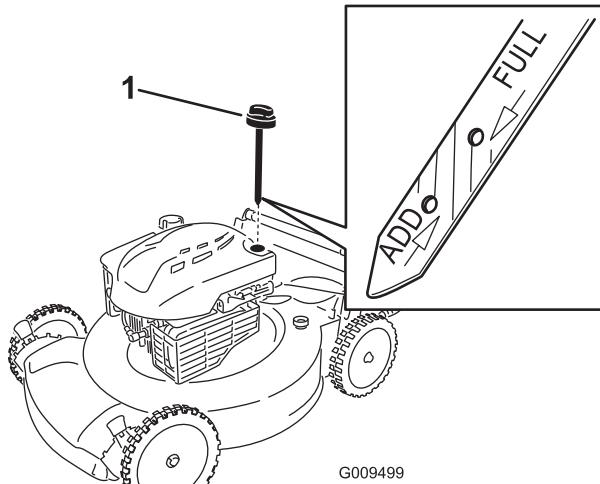

Figure 5
2. Remove the dipstick (Figure 5) and pour about 3/4 of the crankcase capacity of oil into the oil-fill tube.
- Remove the dipstick and read the oil level on the dipstick; refer to Figure 5.